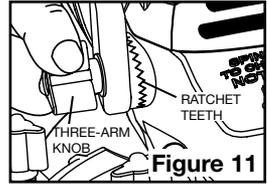
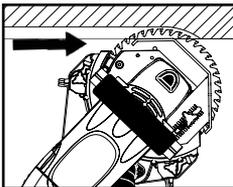
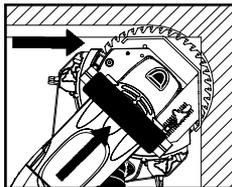

**Figure 10**
Figure 13
Figure 14
- The depth gauge controls the depth of cut at any of three angles: straight-on (Figure 8), 45° "left" (Figure 9), or 45° "right" (Figure 10).
- For dust control, cutting at the 45° "right" angle is preferred. This angle captures as much dust as possible inside the housing. When connecting a vacuum, this angle is the most effective to control dust (Figure 10).
- When undercutting wood, cut towards the corner at 45° "left" angle (see Figure 13) until the depth gauge meets the right wall (see Figure 14). Otherwise, cut on the 45° "right" angle with dust control (see Figure 10).